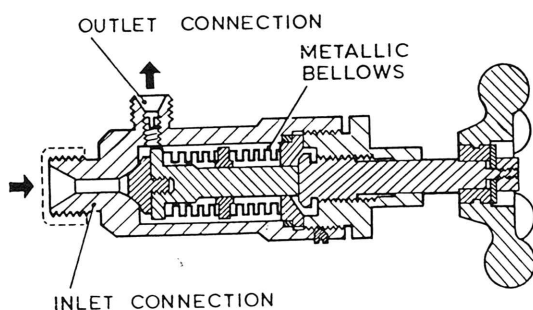

Fig. 2. High-pressure on-off valve
5. A sectional view of this unit is shown in fig. 2; the valve is of the glandless type, the usual gland and gland washer being replaced by a metallic bellows. The oxygen enters at high pressure through the inlet connection and passes through connecting passages and a filter to the reducing valve. A passage also leads from the valve body to a pipe connecting with the contents gauge.